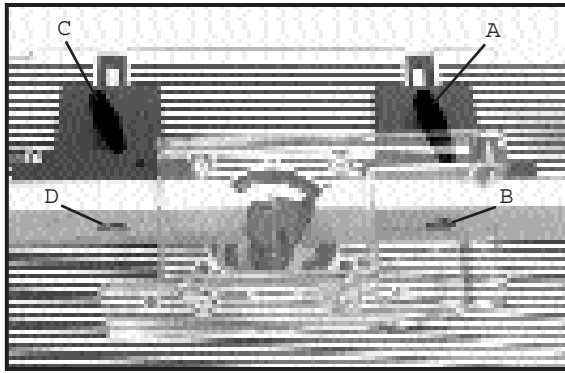

Fig. 14
1. Loosen right fence knob (A) Fig. 14, and right fence screw (B) Fig. 14.
2. Slide the wooden fence to the right to clear bit as you move fence assembly into the desired position front-to-back . Tighten knob (A) Fig. 14, to secure fence assembly in position.
3. Position right wooden fence so that it just clears the bit path, and secure by tightening screw (B) Fig. 14.
4. Loosen left fence knob (C) Fig. 14, and right fence screw (D) Fig. 14.
5. Slide the wooden fence to the left to clear bit as you move fence assembly into the desired position front-to-back . Tighten knob (C) Fig. 14, to secure fence assembly in position.
6. Position left wooden fence so that it just clears the bit path, and secure by tightening screw (D) Fig. 14.